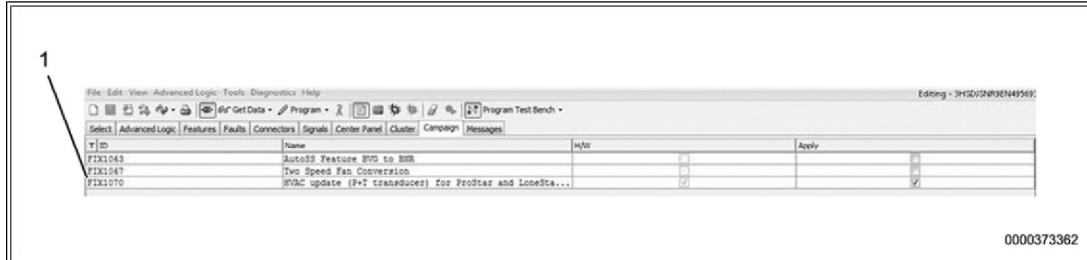

Figure 15: Campaign FIX.
- Verify appropriate FIX parameter is shown (Figure 15, Item 1). Refer to the HVAC FEATURE CODES table listed above.